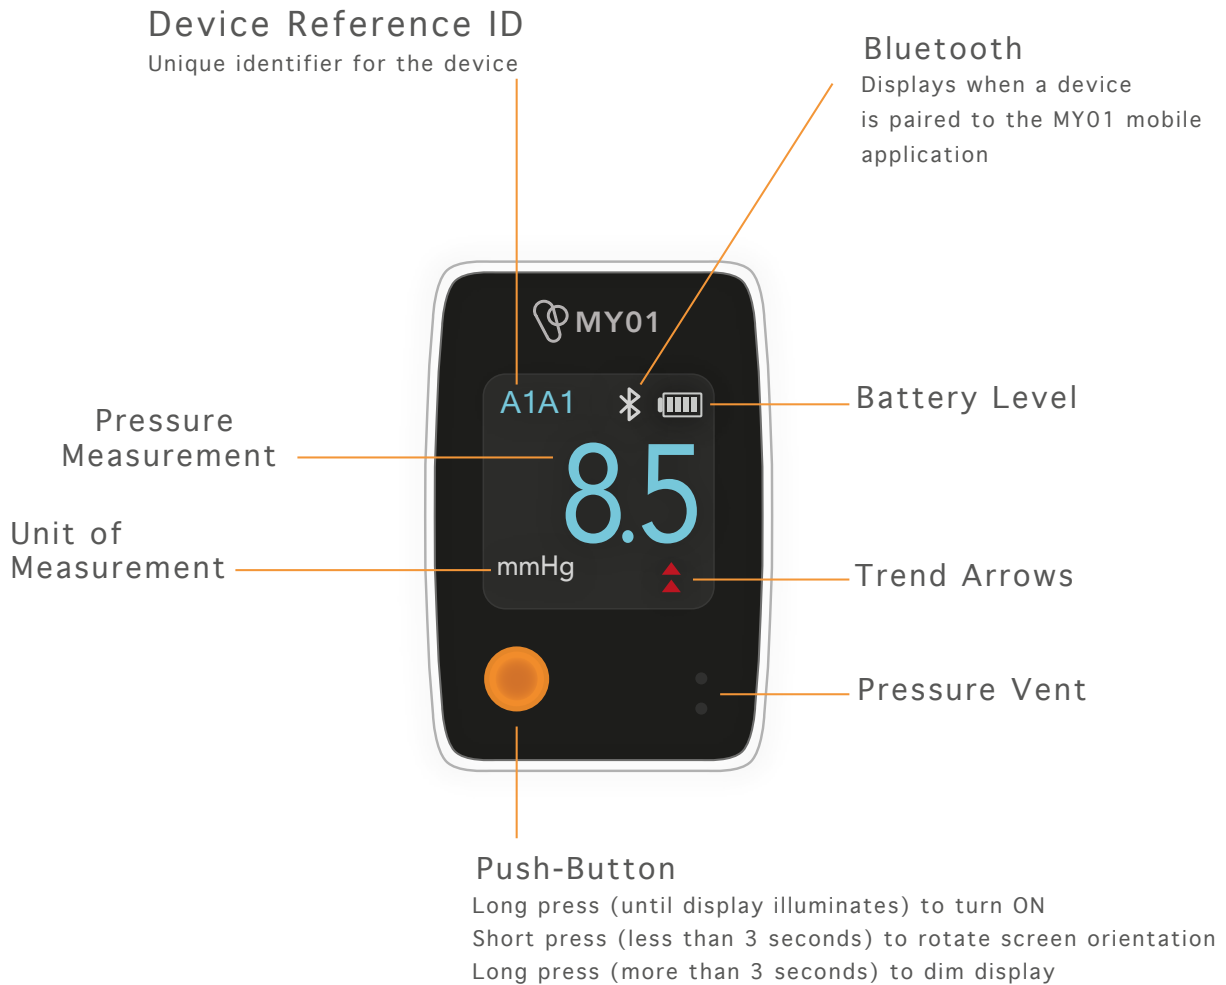
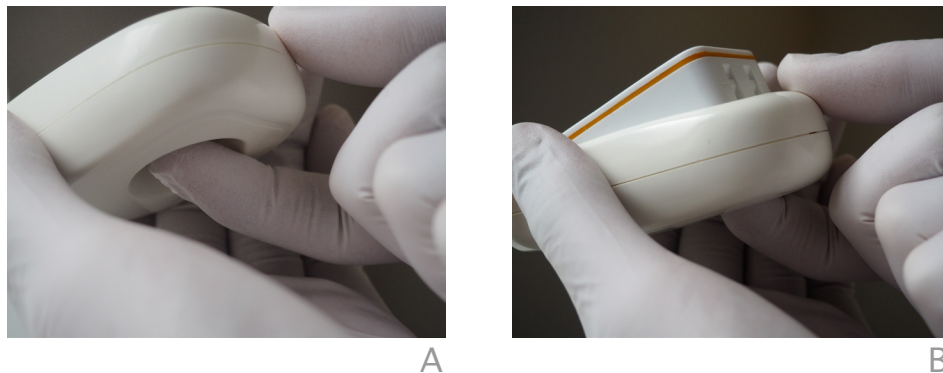

Figure 4: Device Controls and Display Icons
Figure 15: Ejecting the Pressure Monitor
- Always keep the Pressure Vent on the bottom-right of the screen unobstructed (see Figure 4).
- If the adhesive strip is not exposed after ejecting the Pressure Monitor from the Introducer (see Figure 15), manually remove the protective liner. Do not re-apply the adhesive. Additional medical tape should be used if the location of the Device Body is changed after the first application. Ensure that the Pressure Vent (see Figure 4) is not covered by the medical tape.